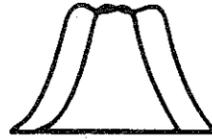

Figure 22. Double rf-response curve caused by improper setting of phasing control. No blanking used.
5. Remove blanking from the sweep signal (most generators have a "blanking off" switch) and adjust the WO-33B SYNC/PHASE control to obtain a single, in-phase trace. If the control is not set properly, the sweep curve may be distorted, or appear as a double image as shown in Figure 22.